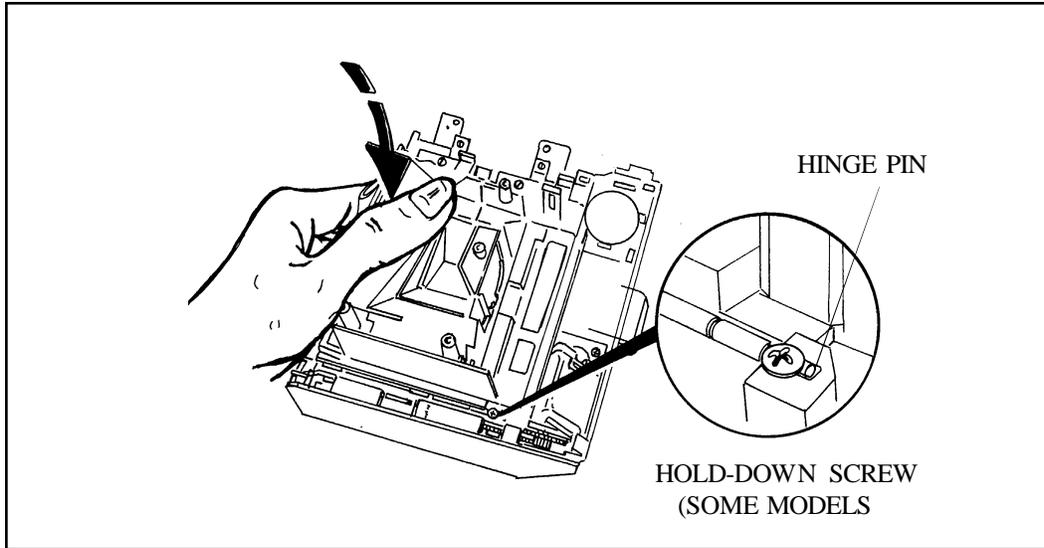

Figure 3-30. Removing Hold-Down Screws at End of Erect System
- b. Remove the hold-down screw at the end of the Erect System hinge pin (Figure 3-30).